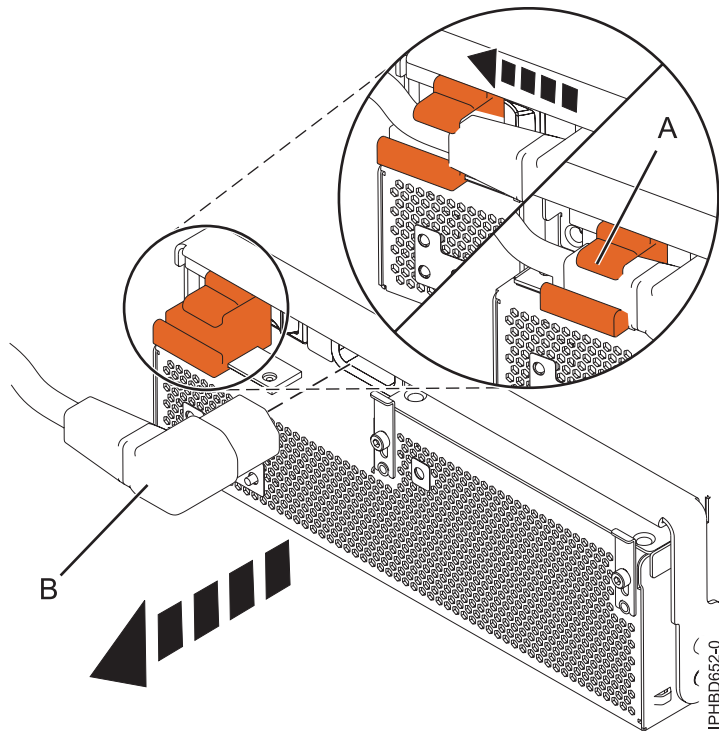

Figure 8. Disconnecting the power cable from the front of an expansion unit
6. For the power supply that you want to remove, slide the cable retention bracket to the open position (A), and then disconnect the power cable (B) as shown in Figure 8.